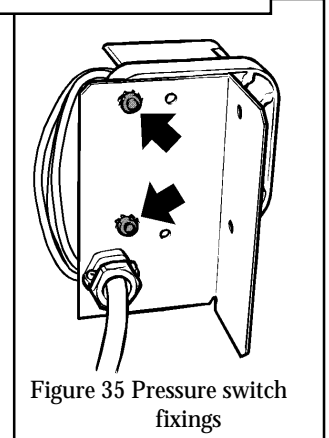

Figure 35 Pressure switch fixings
14.11.2 Detach the pressure switch from the control bracket by removing two screws, nuts and shakeproof washers (see figure 35).